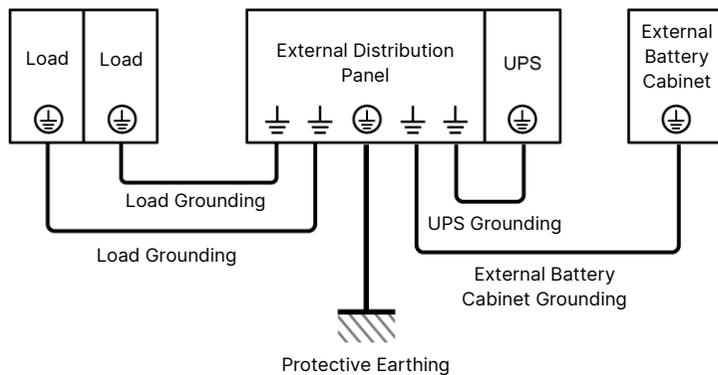
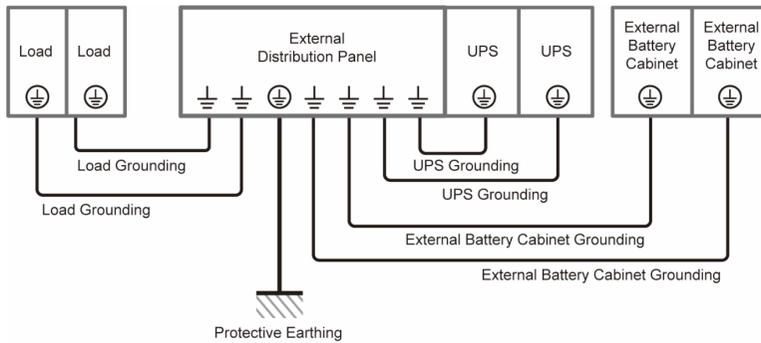

Figure 5-17: Grounding Diagram_ Single Unit
Figure 5-20: Grounding Diagram_ Parallel Units
Follow **Step 7** mentioned in *5.4.3.1 Single Input (Single Unit)* and refer to *Figure 5-17* to ground the UPS, external battery cabinet(s) and connected critical loads.
For single input, follow **Step 1 ~ Step 7** mentioned in **5.4.3.1 Single Input (Single Unit)**. As for the grounding diagram, please refer to **Figure 5-20** rather than **Figure 5-17**.
For dual input, follow **Step 1 ~ Step 4** mentioned in **5.4.3.2 Dual Input (Single Unit)**. As for the grounding diagram, please refer to **Figure 5-20** rather than **Figure 5-17**.
- For the external battery cabinet's grounding information, please refer to **Figure 5-17** and **Figure 5-20**.